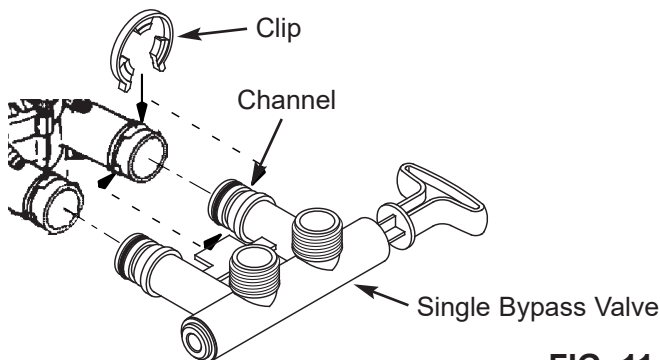

FIG. 11
5. Push the single bypass valve into the system valve as far as it will go. Snap the two large holding clips into place, from the top down as shown in Figures 11 & 12.